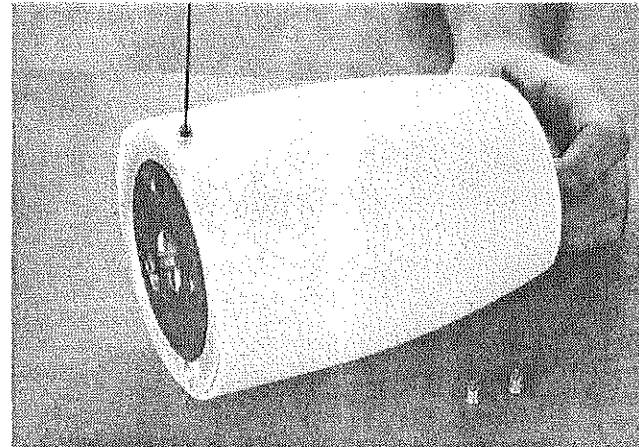

FIG. 38
23. Slide shroud over turbine (Fig. 38).
24. Attach shroud to turbine by installing three latch button assemblies (lubricate allen screws). Tighten with $\frac{1}{16}$ " allen screwdriver (Fig. 38).